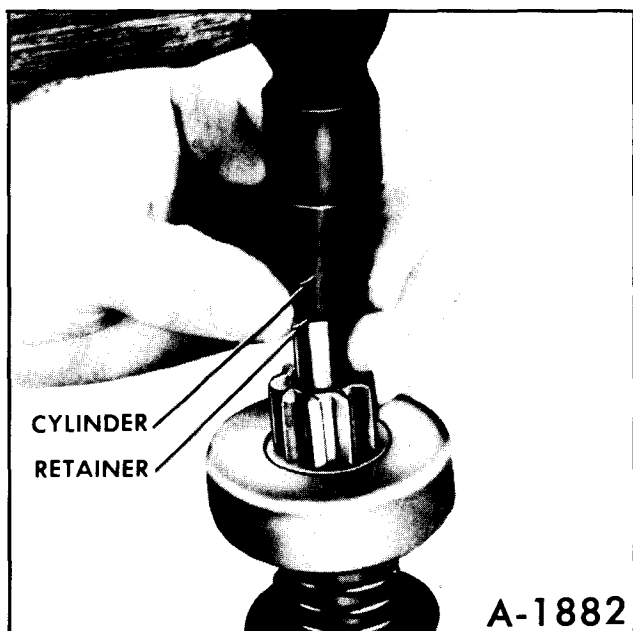

Figure 69—Removing Pinion Retainer
b. Slide a standard half-inch pipe coupling or other metal cylinder of suitable size (an old pinion can be used if available) over shaft against retainer to be used as a driving tool. (figure 69) With armature shaft supported on wood block, tap end of driving tool until retainer clears snap ring.